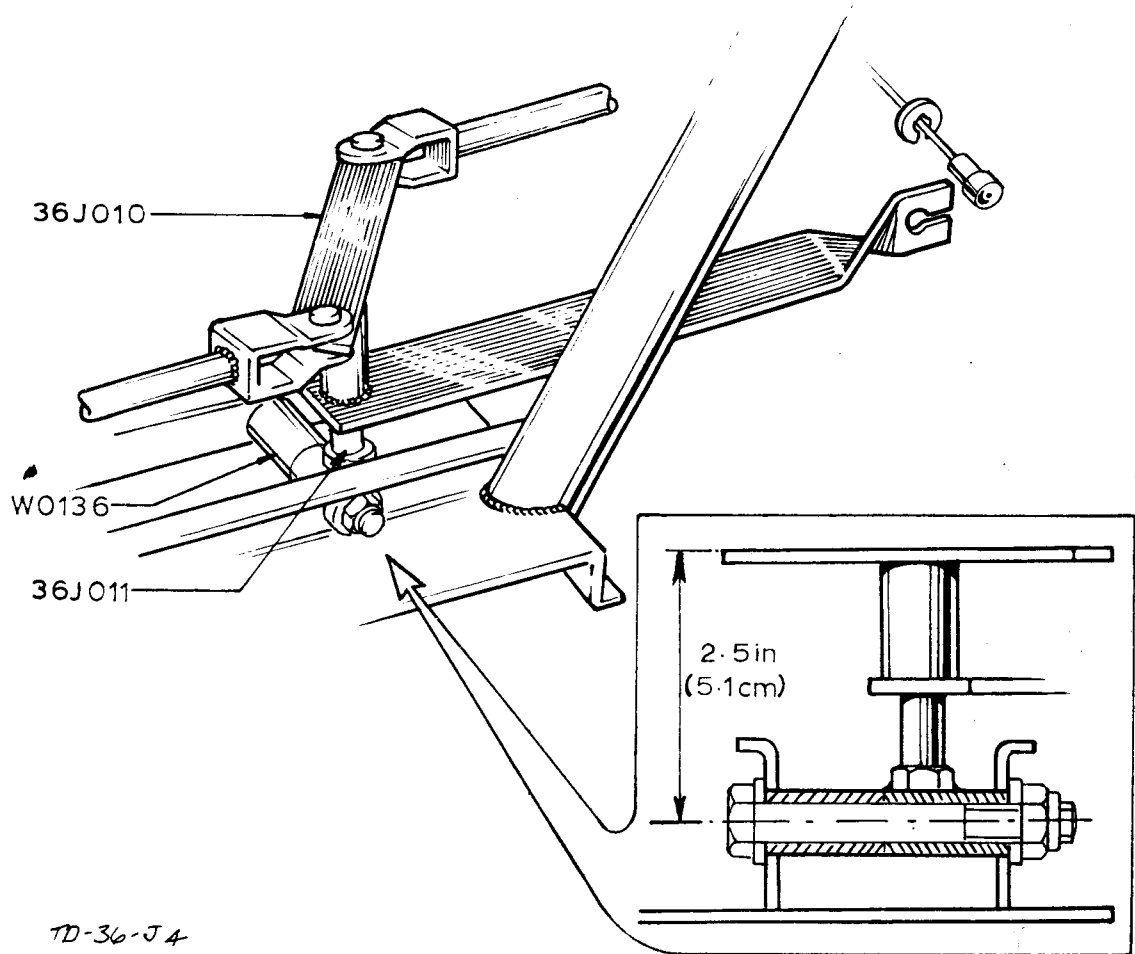

Fig. 15. HANDBRAKE LINKAGE & ACTUATING RODS ASSEMBLY
3. Fit the new assembly to the chassis as in Fig. 15 and connect the outer ends of the actuating rods to their locations on the rear calipers, ensuring that the spacer is in the clevis before securing with the clevis pins and new split pins.